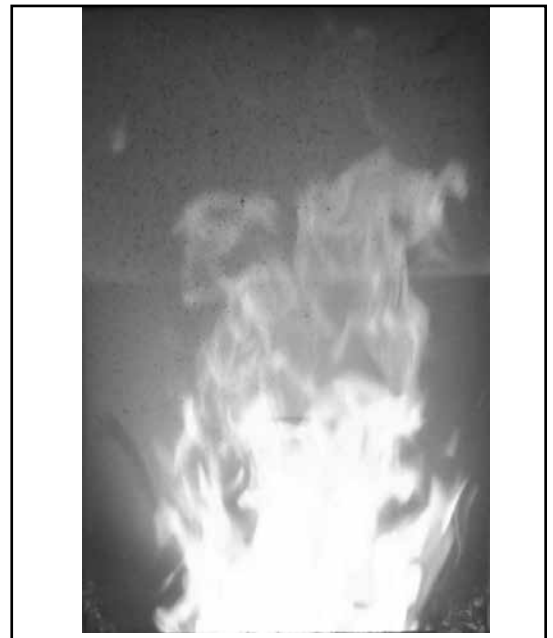

Figure 20: Efficient Flame.
- If the flame is in the middle of these two characteristics with a bright yellow/orange, active flame with no black tips then the air is set for proper operation, refer to Figure 20.